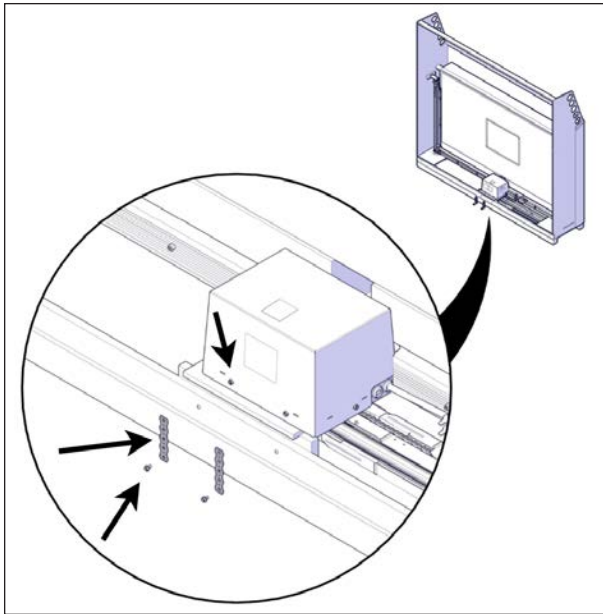

FIGURE 24: REMOVE THE OPERATOR
5. Use a slotted screwdriver to remove the metal strapping holding the operator in place Figure 24.